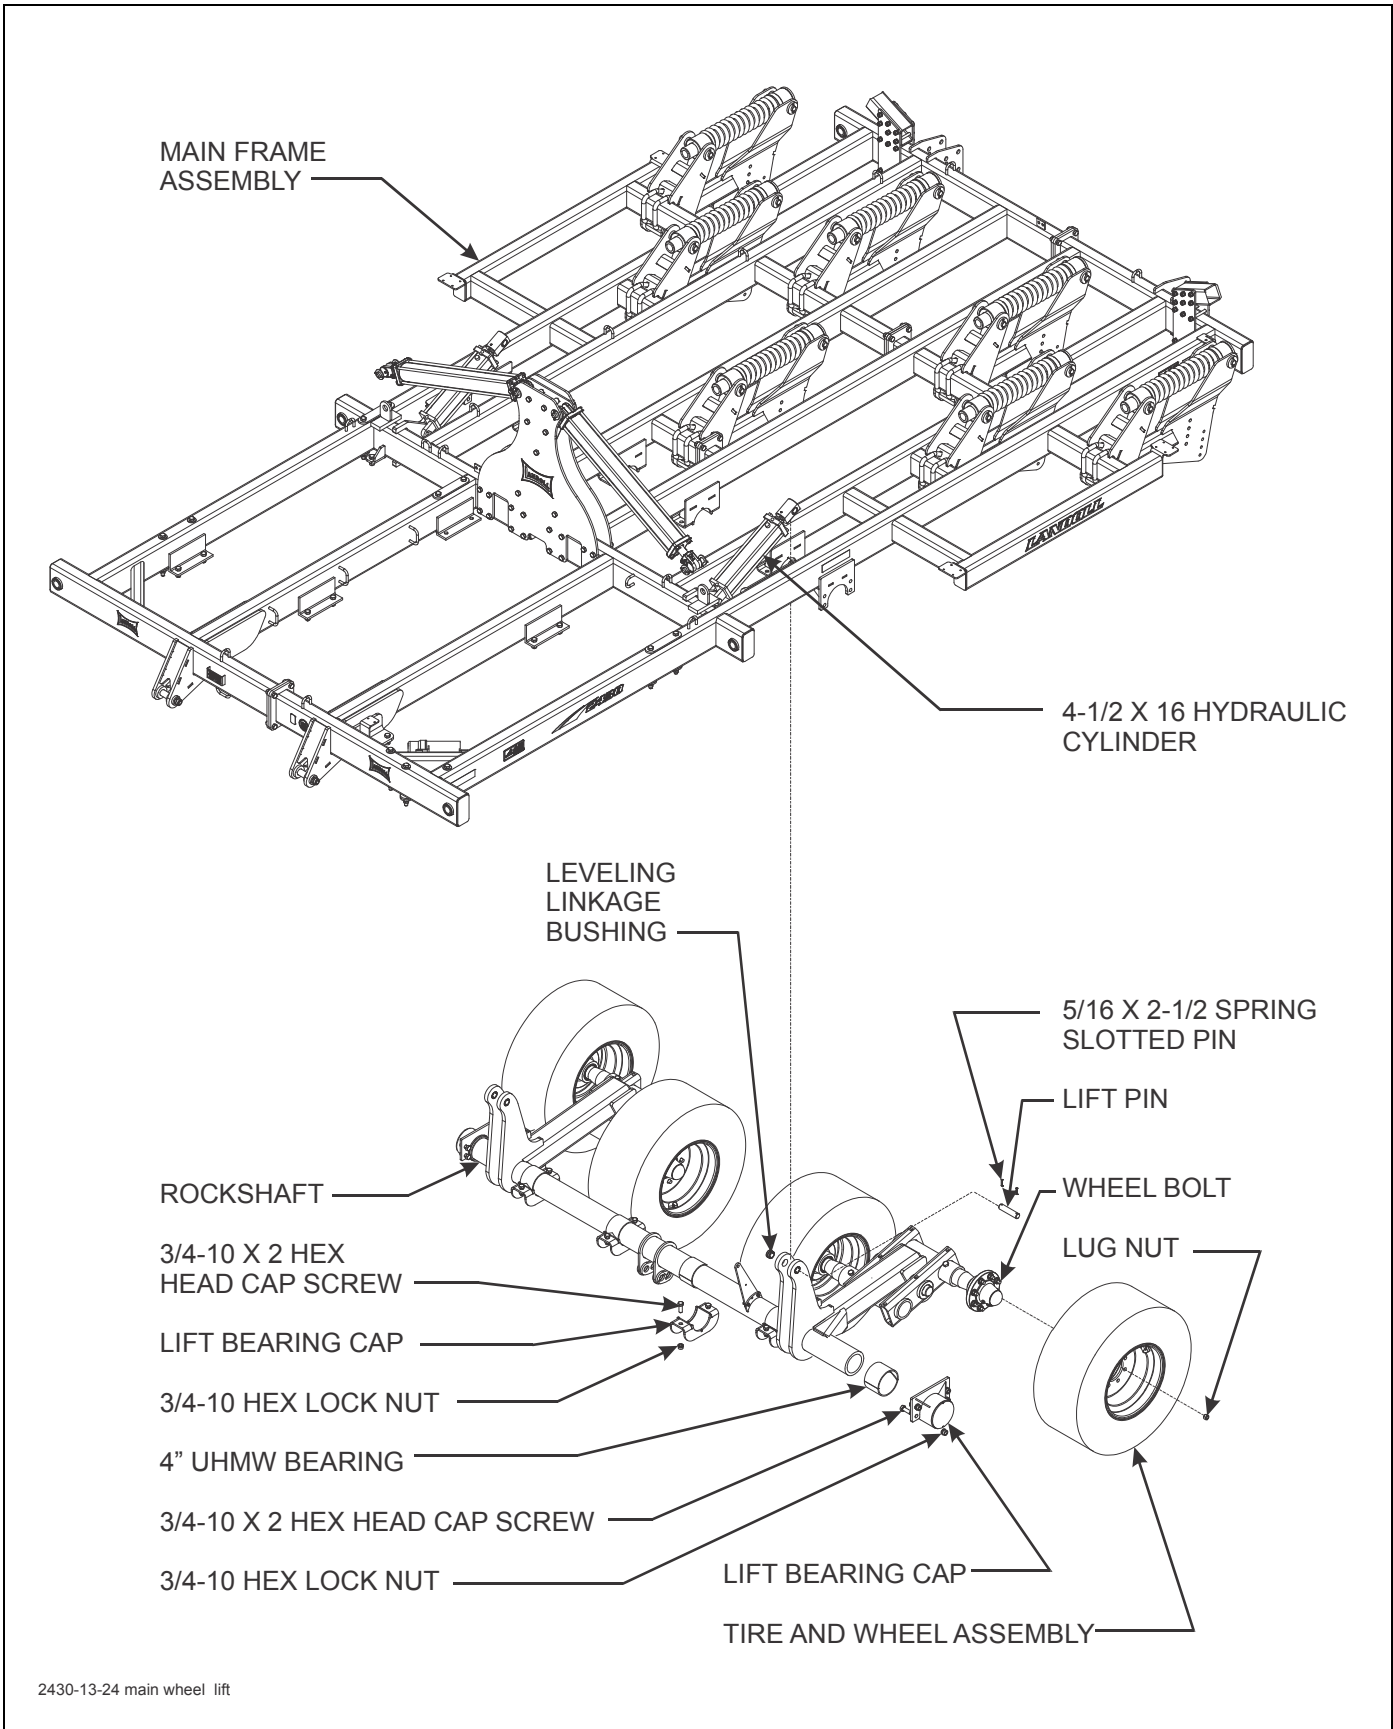

Figure 3-2: Main Wheel Lift Installation
3. Attach rod end of each 4 x 16 hydraulic cylinder to the lift using lift pins and 5/16 x 2-1/2 spring slotted pins (**See Figure 3-2.**)